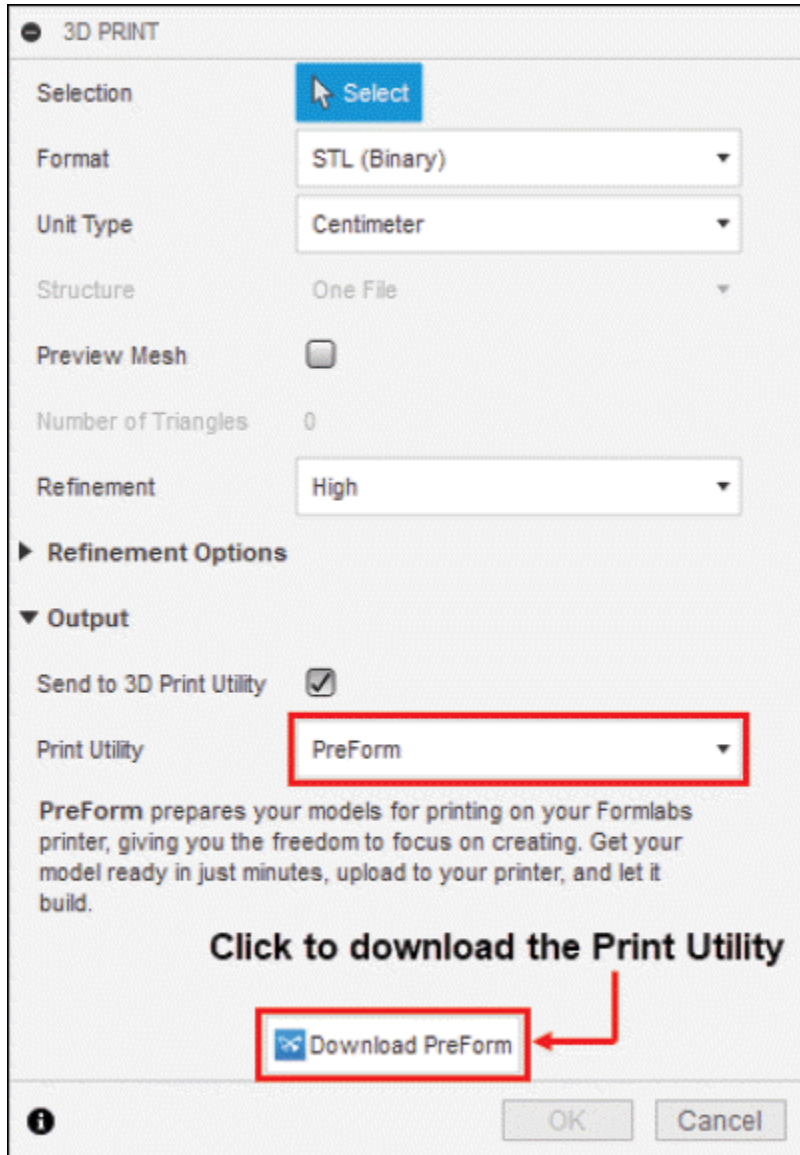

Figure-41. Option To download Print Utility
- Select the **Send to 3D Print Utility** check box in **Output** section to further edit the model in 3D printing utility. Select desired 3D Printing utility from **Print Utility** drop-down; refer to Figure-41. Note that 3D printing utilities are not installed automatically during Fusion 360 installation. On selecting the utility from **Print Utility** drop-down, an option to download and install the utility will be displayed in the dialog box. Download and install desired utility.